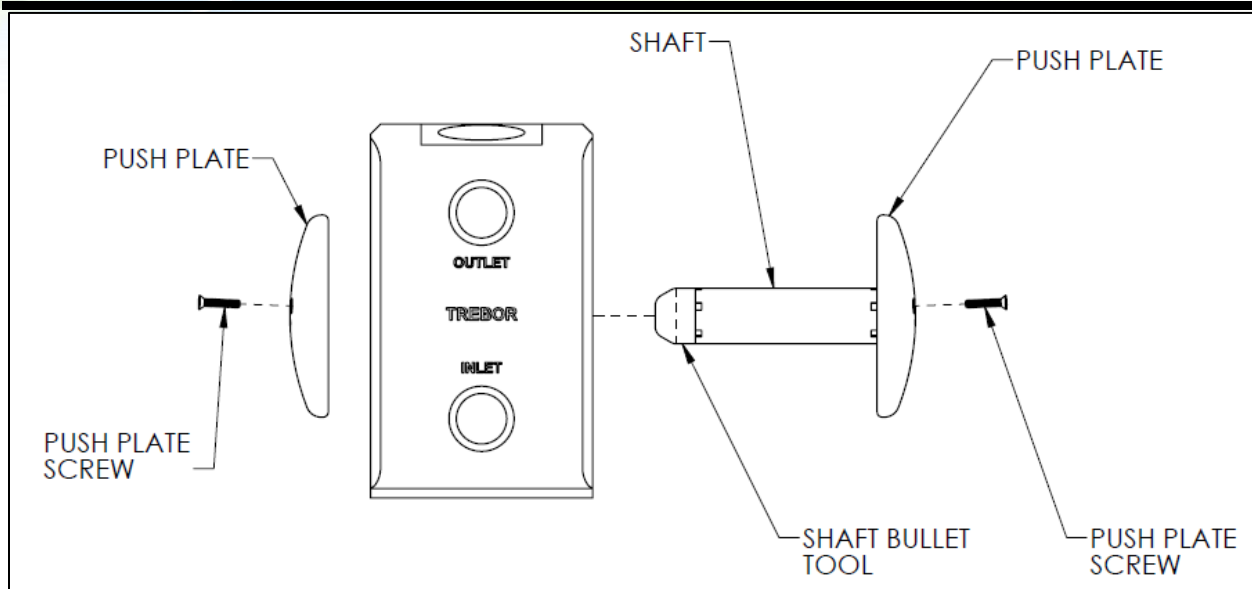

Figure 4-6
- Thread one push plate onto shaft until push plate bottoms out on shaft shoulder. (See Figure 4-6.)